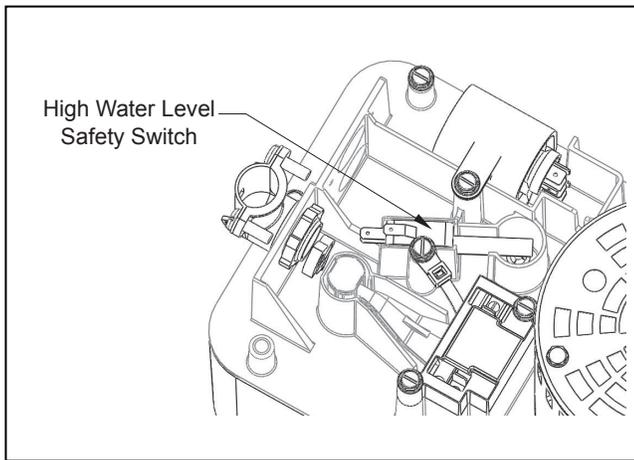

Figure 2
1. This product is supplied with a factory installed auxiliary safety switch. (See *Figure 2* for its location in pump assembly.) This switch is a passive protective device providing protection from the possibility of pump overflow due to clogged discharge lines or pump malfunction. These switches are wired to work as an alarm trigger, but can be changed to act as a circuit breaker depending on the application requirements.